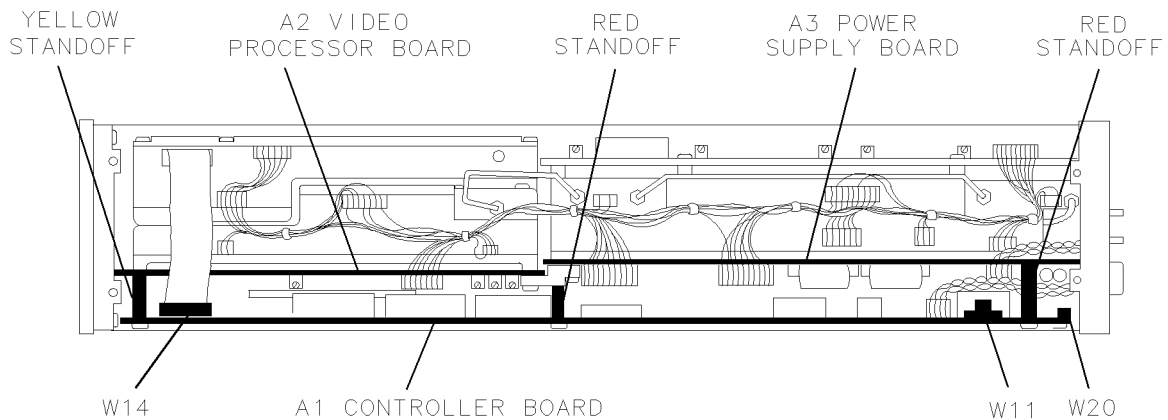

Figure 2. A1 Controller Board Assembly Removal
1. Remove the three screws along the top edge of the controller board assembly. See Figure 2.